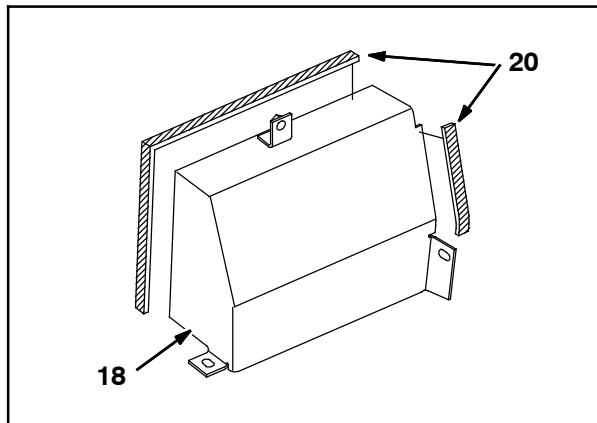

FIG. 9
22. **Gas / Diesel Machines Only:** Install the urethane seal (20) onto the fuel inlet cover (18). (Fig. 9)
23. **Gas / Diesel Machines Only:** Use two hex screws and two Belleville washers to install the fuel inlet cover (18) onto the operator compartment. (Fig. 9)